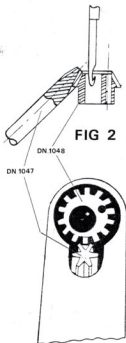

FIG 2
When a new needle is fitted, the shank end must locate up to the stop pin DN 1011, situated inside the needle bar DN 1005, as shown on Plate 9. The hook of the needle must be directed to the right when viewed from the front of the machine and pointing slightly into the body of the machine. Ensure that the clamp screw DN 1014 is secure. When the needle is in its lowest position the top of the needle barb must be just below the thread hole in the whirl DN 1048, see fig 2.
Rotate the handwheel until the shuttle tip, when travelling from left to right is in line with the needle, fig 4. Rotate the horn so that the horn tip is facing the machine column. Remove the horn cap DN 1043, as shown on Plate 6. The hole in the whirl should be positioned as shown in fig 3. It is important that if a new whirl or pinion is fitted the engagement of the teeth is correct, this is shown in fig 2. Adjustment is made by removing the horn tip and pinion DN 1042 and DN 1047 and adjust the small screw DN 1047a situated in the end of DN 15. Only small adjustments to this screw should be required.
1. If the needle does not pick up the thread :- See whirl setting instructions. See needle setting instructions (the needle could be going down too far or not far enough, Fig 2.)